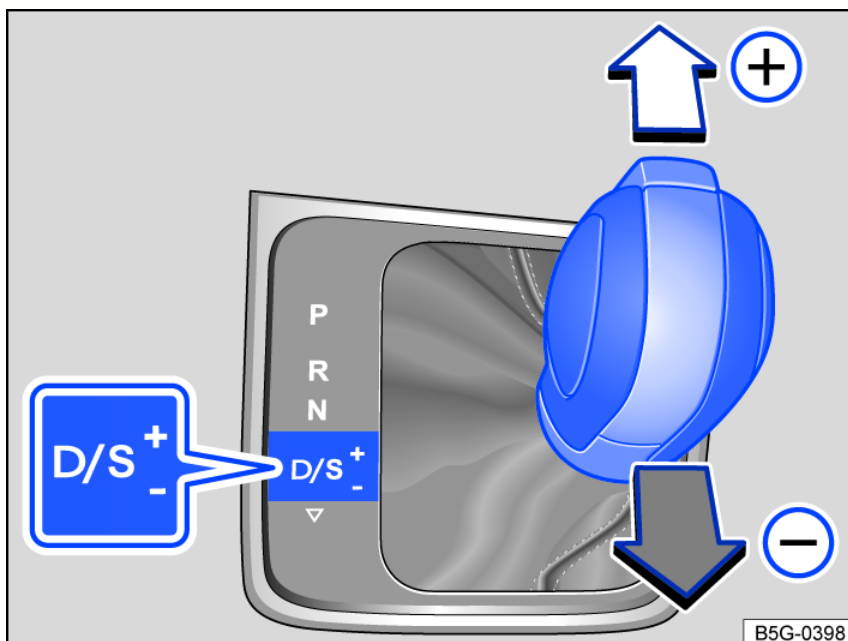

Fig. 102 Selector lever in Tiptronic position.
- Tap the selector lever forward  or to the rear  to upshift or downshift fig. 102.